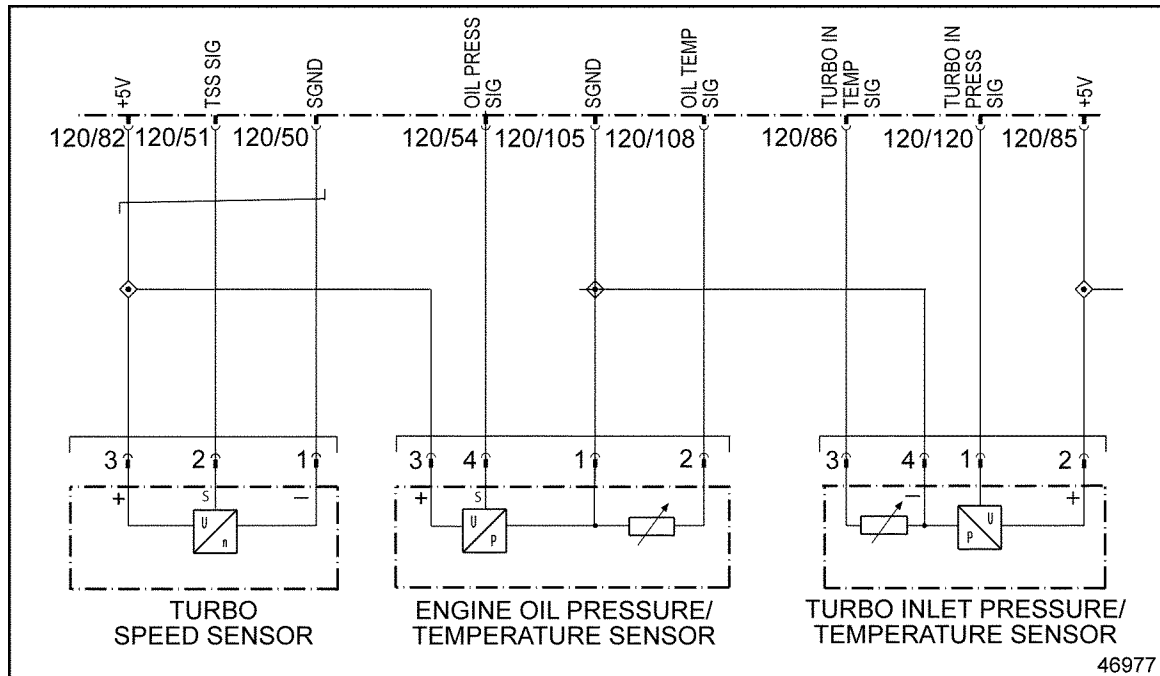

Figure 7-1 Engine Oil Pressure/Temp Sensor
- [b] If resistance is greater than 5 Ω , repair the short to power on the circuit between pin 54 of the 120-pin MCM connector and pin 4 of the Engine Oil Pressure/Temp Sensor harness connector. See Figure 7-1. Refer to section 7.3.1.1.
- [a] If the voltage is less than 2.75 volts, repair the open circuit between pin 82 of the 120-pin MCM connector and pin 3 of the Engine Oil Pressure/Temp Sensor. See Figure 7-1. Refer to section 7.3.1.1.
- [b] If the voltage is less than 2.75 volts, repair the open circuit between pin 105 of the 120-pin MCM connector and pin 1 of the Engine Oil Pressure/Temp Sensor. See Figure 7-1. Refer to section 7.3.1.1.